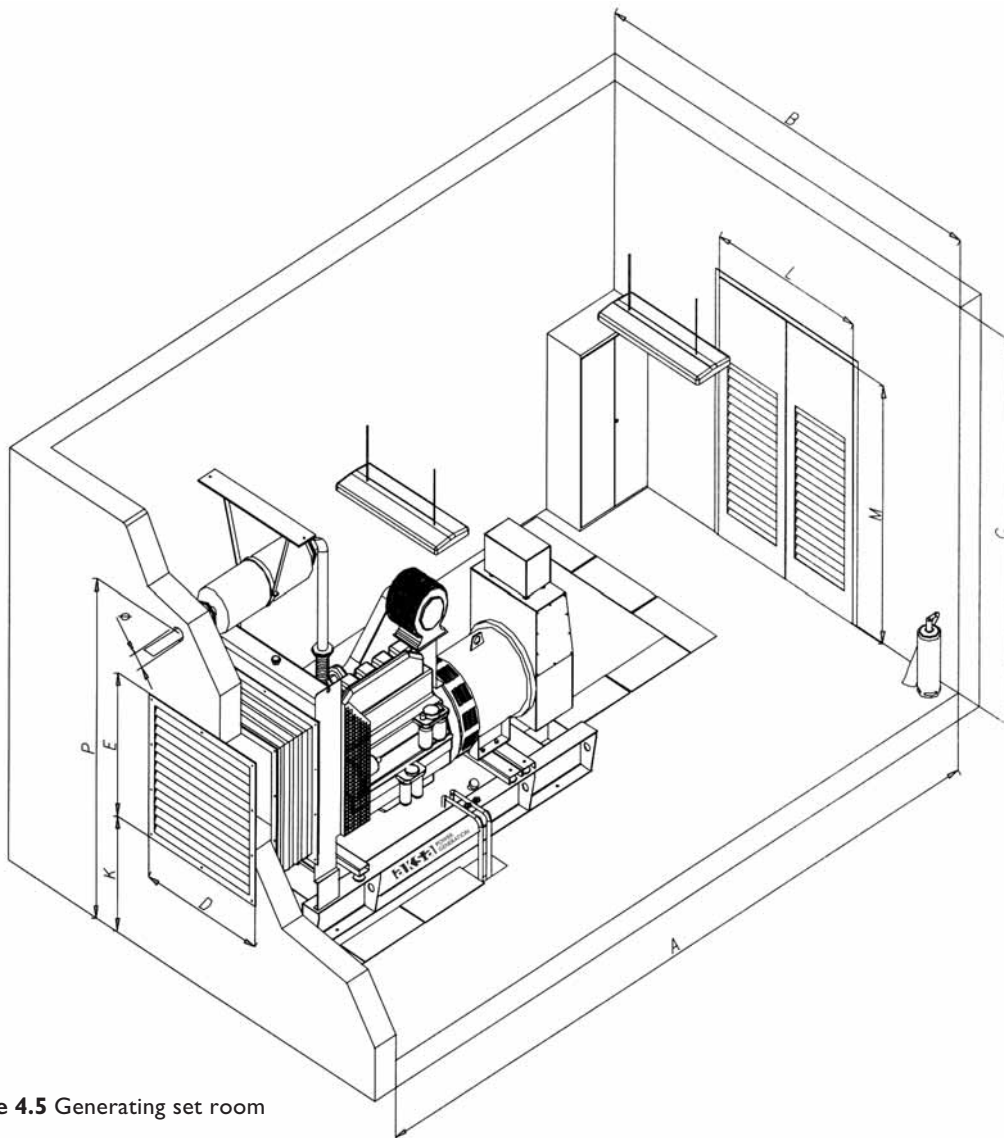

Figure 4.5 Generating set room
- The exhaust gas pipes should be supported by the building in order to prevent the dead weight carried by the engine manifold and turbocharger. For that, stretching elements should be used. (See Figure 4.5)
Table 4.1 Aksa open type diesel (look figure 4.5 genset room) gen-sets dimensions, room dimensions, air inlet and outlet openings dimensions and exhaust pipe dimensions. Please contact us for gen-sets which have remote radiator system.
Table 4.2 Aksa 60 Hz, open type diesel gen-set dimensions, air inlet and outlet openings dimensions and exhaust pipe dimensions. (look figure 4.5. genset room) Without acoustic treatment. Single sets.